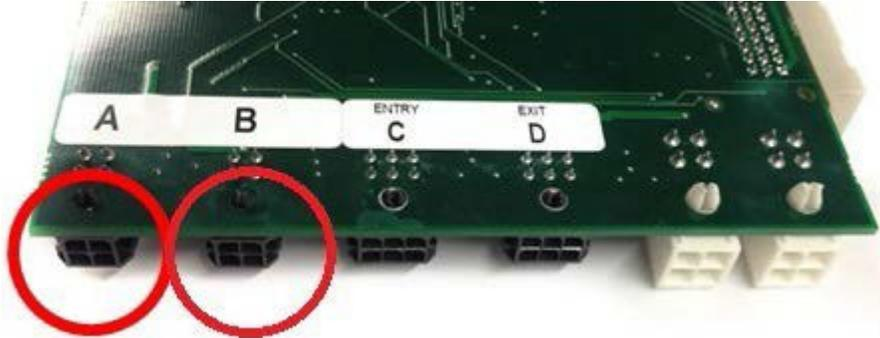

Figure 8. Collector Radio Ports in RIB
16. See Figure 8. A RIB (Radio Interface Board) should already be installed in the FMU-3505, and the collector radio(s) should be plugged into 4-pin ports A, if only one collector radio, and B, if two collector radios.